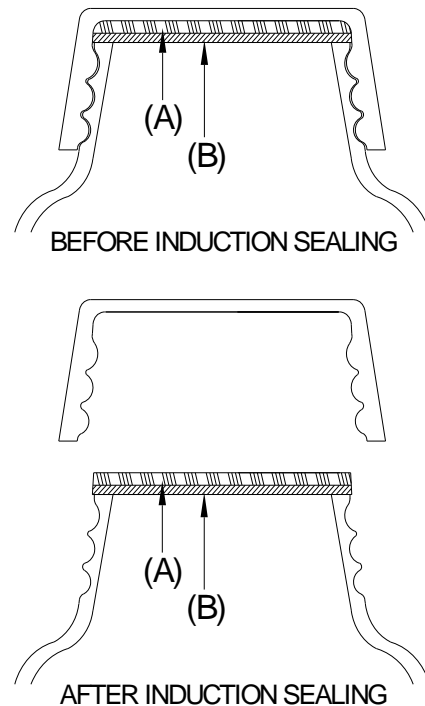

Figure 2
A single piece foil liner (**Figure 2**) typically consists of a layer of *aluminum foil* (A) coated with a *polymer* (B) inside a closure.